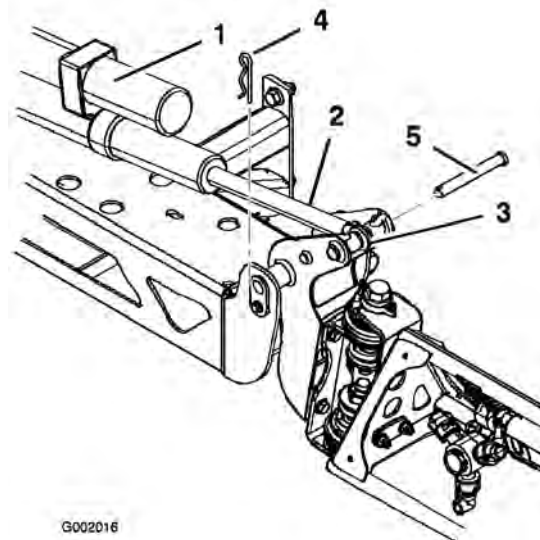

Figure 35
2. Remove the cotter pin from the pivot pin (Figure 35).
3. Lift up on the boom and remove the pin (Figure 35). Slowly lower the boom to the ground.
6. Raise the boom to align the pivot with the actuator rod. While holding the boom, insert the pin through both boom pivot and actuator rod (Figure 35).